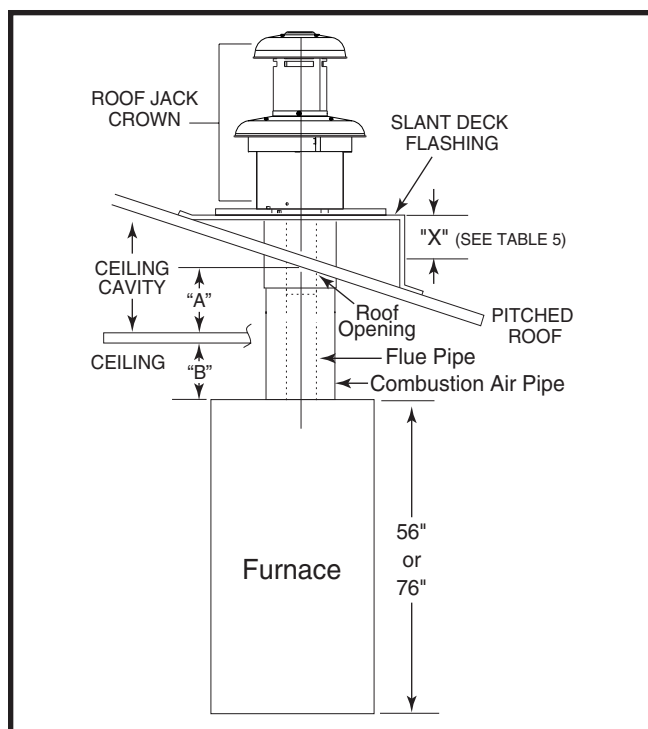

Figure 16. Ceiling Cavity Depth
1. Determine depth of ceiling cavity from center of roof opening to center of ceiling opening noted as "Dimension A" in Figure 16 (page 10).
2. Determine ceiling height and subtract height of furnace noted as "Dimension B" in Figure 16 (page 10).